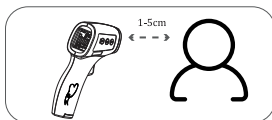

Figure 2-Measuring position and distance
- The thermometer is aligned with the middle of the forehead to measure body temperature (between the eyebrows above) and keep the vertical distance, press the On/Scan button, temperature display immediately, see figure 2.